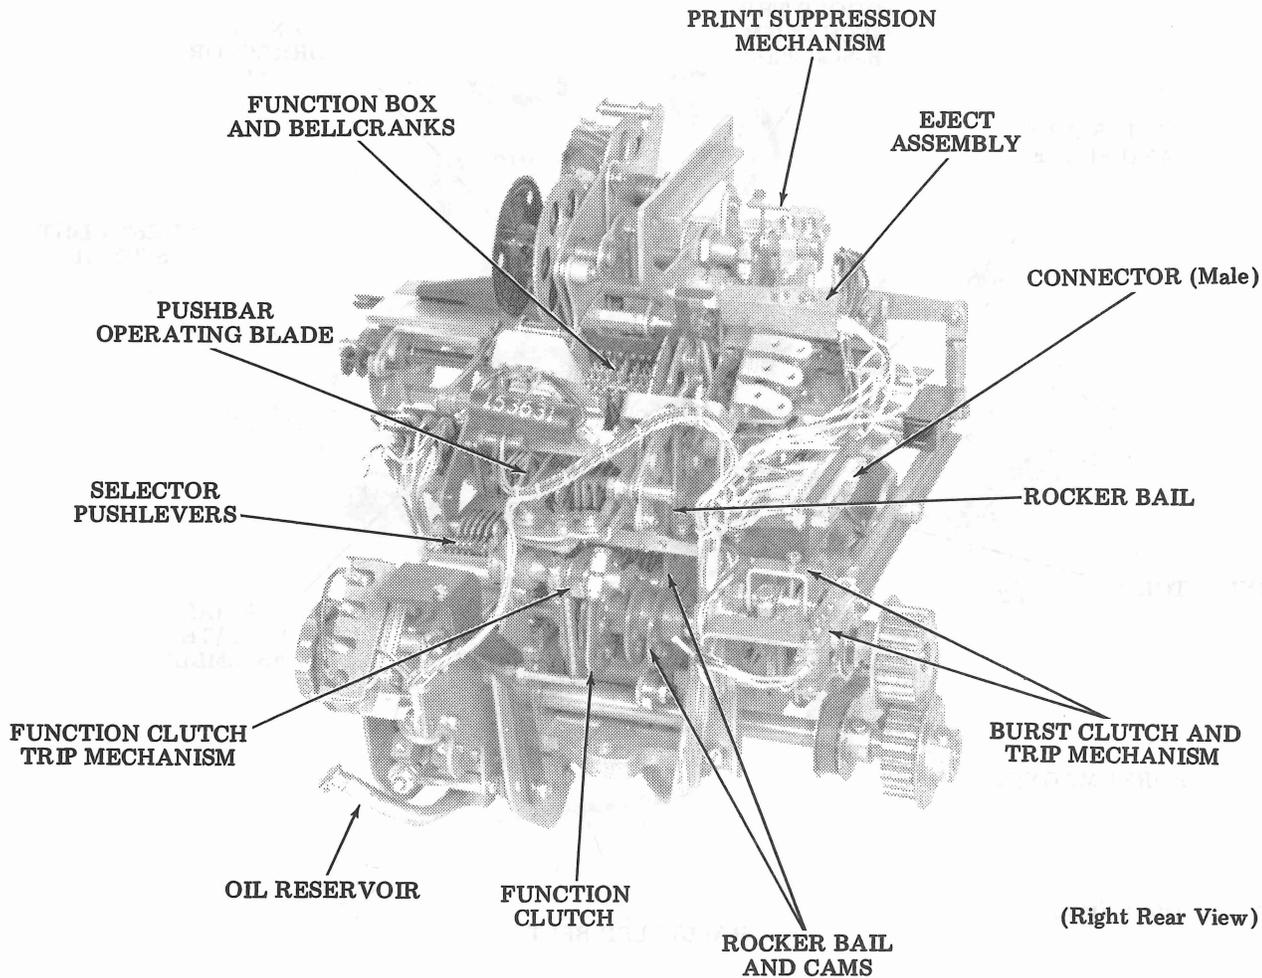

Figure 5 - 35 Edge Punched Card Typing Reperforator (Without Top Plates)
the printing latch. Remove the rod. Remove the yellow and blue wires from the magnet coil. Remove the screws (TP151722 and TP153841), and two lockwashers (TP2191) that mount the coil mounting bracket (TP176450) to the handle (TP162850) and plate with studs (TP164521). Remove the magnet assembly (Figure 5).
2.17 Remove the screw, lockwashers, flat washer, and nut holding the cable clamp (TP121244) to the trip mechanism (Figure 5). Remove the trip bail spring (TP80581) between the trip bail (TP309200) and the magnet assembly mounting bracket (TP309228). Remove the two screws and lockwashers holding the trip mechanism bracket (TP309202) to the frame casting. Remove the trip mechanism.
2.20 Remove the print suppression contacts (Figure 5) by removing the two screws, lockwashers, and flat washers that mount the contact bracket to the square post (TP162862). Remove the screw holding the cable clamp and switch assemblies to the guide post (TP309208).
2.22 Remove the pushbar operating bail (TP156871 — Figure 5) from its pilot stud bushing assembly. Disconnect the print hammer drive link (TP156937). Remove the nut on the eccentric shoulder screw (TP163429) at the printing pivot arm (TP159539) and disconnect the printing link.
2.26 Remove the two screws (TP151630) and lockwashers (TP2191), and one screw (TP111017) and lockwasher (TP92260) securing the function box assembly (Figure 5). Remove the function box assembly.
2.29 To remove the pushbars (Figure 5) after removing the typing mechanism, remove the function box mechanism from the typing mechanism (if not previously removed). Remove the pushbar by disengaging the pushbar rack from its associated pinion.
2.31 The burst clutch mechanism (Figure 5) is located at the rear end of the upper shaft. Remove the screw (TP150040) and lock-
2.37 Remove the nut, lockwasher, and adjusting lever guide (TP309267), and remove the rocker bail shaft (TP309269). Remove the rocker bail (TP162350 — Figure 5).